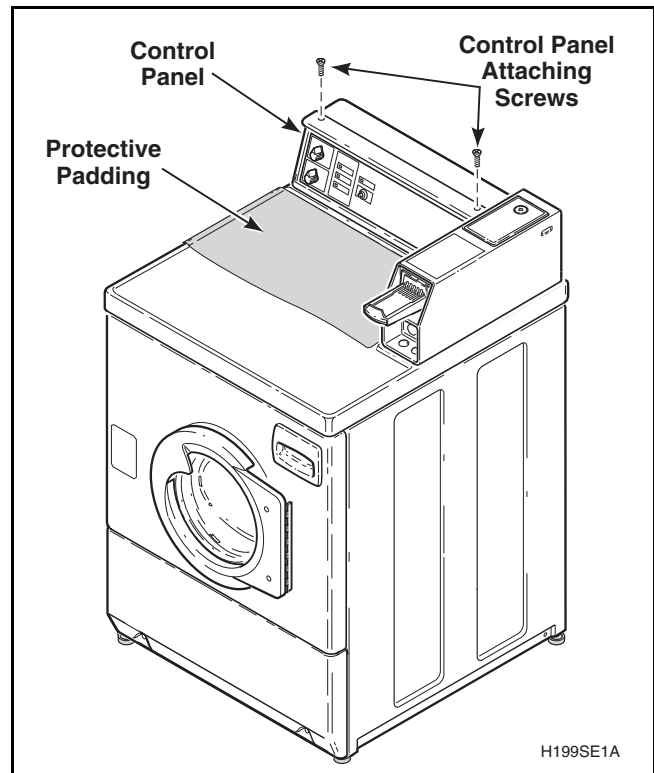

Figure 15
- a. Remove two control panel attaching screws holding control panel to control hood. Refer to *Figure 15*. Lay assembly forward on protective padding on cabinet top.
- (1) Remove two control panel attaching screws. Refer to *Figure 15*. Lay assembly forward on protective pad on cabinet top.
- Remove two control panel attaching screws. Refer to *Figure 15*. Lay assembly forward on protective pad on cabinet top.
- (2) Disconnect wires from light.
- a. Remove two control panel attaching screws. Refer to *Figure 15*. Lay control panel assembly face down on protective padding.
- (1) Remove two control panel attaching screws. Refer to *Figure 15*. Lay control panel on protective pad.
- (2) While supporting control panel, disconnect all wires from control panel components.